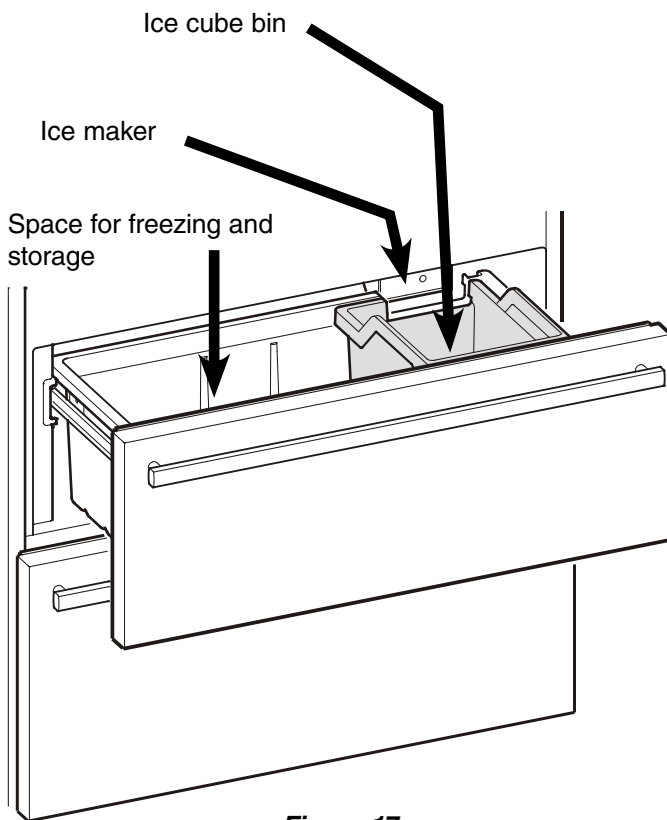

Figure 17
Description - Figure 17
- The ice maker can only make ice cubes if the upper freezer drawer is completely closed and the ice cube bin is installed correctly (**Figure 17**).
- Finally clean the ice cube bin (**Figure 17**).
The ice cubes fall out of the Ice Maker into the ice cube bin (**Figure 17**). When the ice reaches a certain level in the bin, the appliance stops producing ice automatically. The ice maker will not fill the bin to the top.
Be sure the upper freezer drawer is completely closed and the ice cube bin is installed correctly. (**Figure 17**).